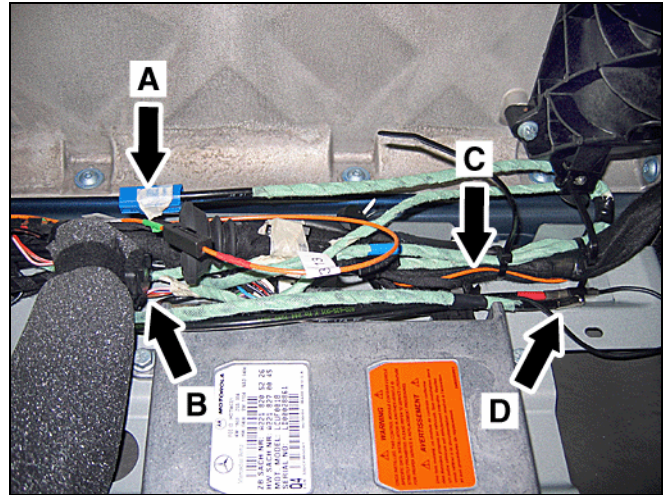

Figure 3
- Blue antenna connector (A, Figure 3)
- Power supply connector (B, Figure 3)
- MOST optical fiber (C, Figure 3)
- Female, male, and pre-wired antenna leads for the antenna splitter (D, Figure 3)